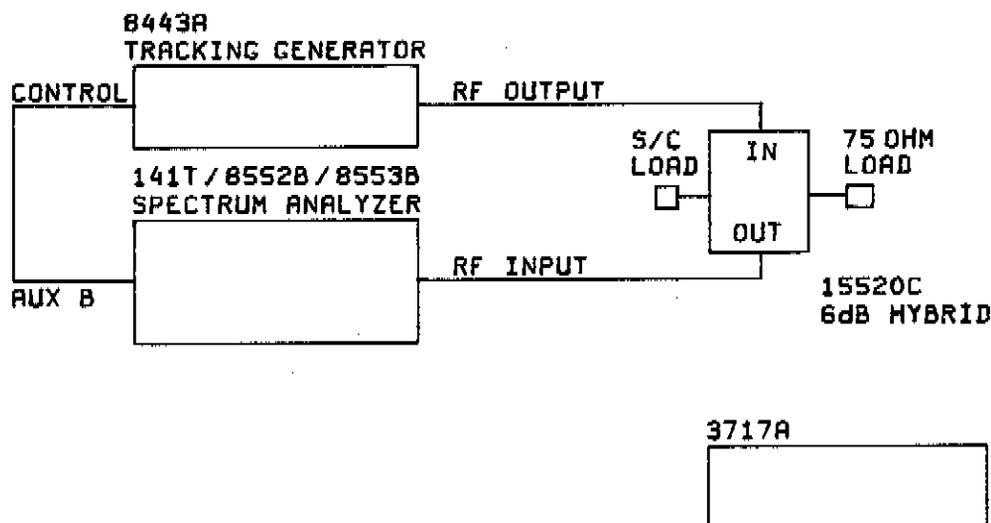

Figure 4-4 IF Return Loss Test
20. Connect the equipment as shown in Figure 4-4 and set the controls as follows: